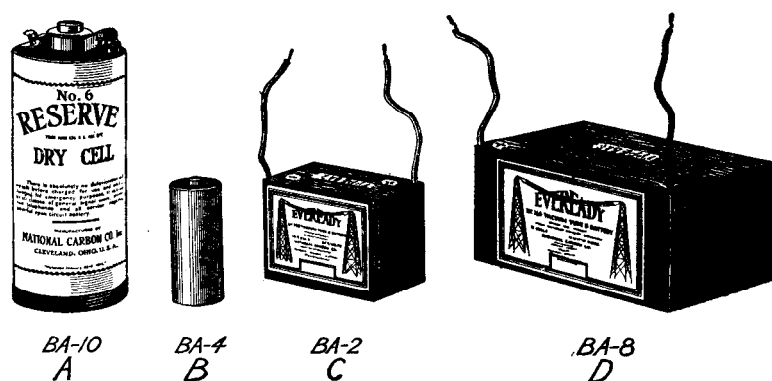

Fig. 3, A-B-C-D.—Types of dry cells and batteries used in signal communications.
**Primary batteries.**—A primary battery consists of two or more units called *cells*. Each cell produces electricity by certain chemical actions which take place inside the cell. There are many types of primary cells. Those which contain a liquid which is easily spilled, or those in which the liquids are placed in glass containers are unsuitable for use where they are to be transported with radio sets accompanying troops in the field. The type of primary cell most practical for such use is known as the dry cell. The BA-4 cell is an example of this type of dry cell. (See Fig. 1, A, and Fig. 3, B.)
**BA-10 Dry Cell.**—The BA-10 reserve dry cell is similar to the BA-4 cell. (See Fig. 1, B and Fig. 3, A.) It consists of a cylindrical zinc container in the center of which a hollow carbon rod is placed. The space between the carbon rod and the inner wall of the zinc case is filled with certain chemicals and absorbent materials. The top of the cell is sealed with an asphalt insulating compound. Two spring clip terminals are provided on the top of the cell, one being attached to the zinc case itself and the other to the carbon rod. A paraffin coated cork closes the opening in the top of the carbon rod.
**BA-2 Battery.**—The type BA-2 battery shown in Fig. 3, C, consists of 15 dry cells, each cell being similar to the BA-4 type cell, but smaller. The cells are connected together in series and sealed in a cardboard container with sealing wax. Two wire terminals are brought out through the sealing compound at the top of the batteries. One of the wire terminals is covered with black insulation to indicate the negative pole, while the other wire is covered with red insulation to indicate the positive pole. It is important to remember these colors.
**BA-8 Battery.**—The type BA-8 battery (Fig. 3, B), is similar to the type BA-2 battery. The two batteries differ only in the size of the cells, those of the BA-8 battery being about twice the diameter of the cells of the BA-2.